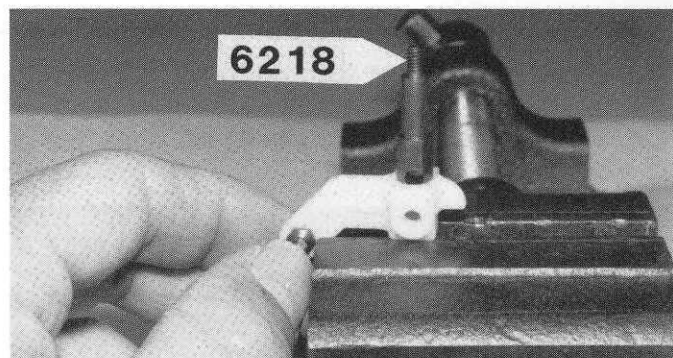

Fig. 11
□ **Fig. 11** From bag #6-1 push the front axle #6218 into the steering block #6217 as shown so the hole in the axle lines up with the hole in the steering block. It may push together with your fingers. If not, LIGHTLY tap it into the hole. Assemble the right hand side in the same way.